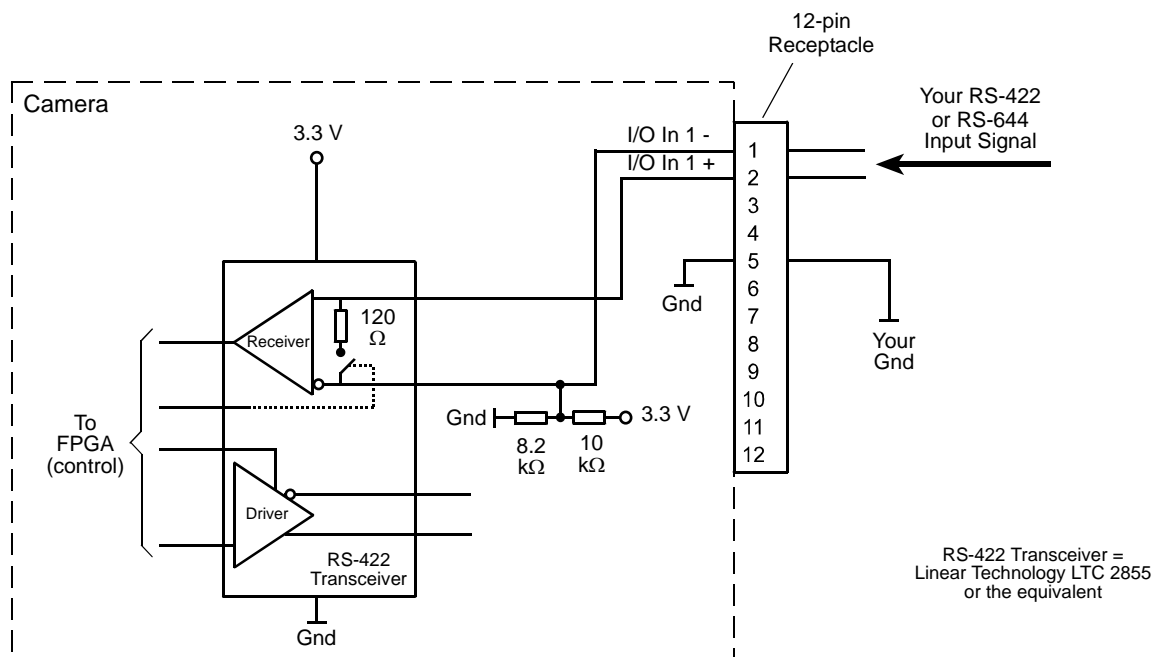
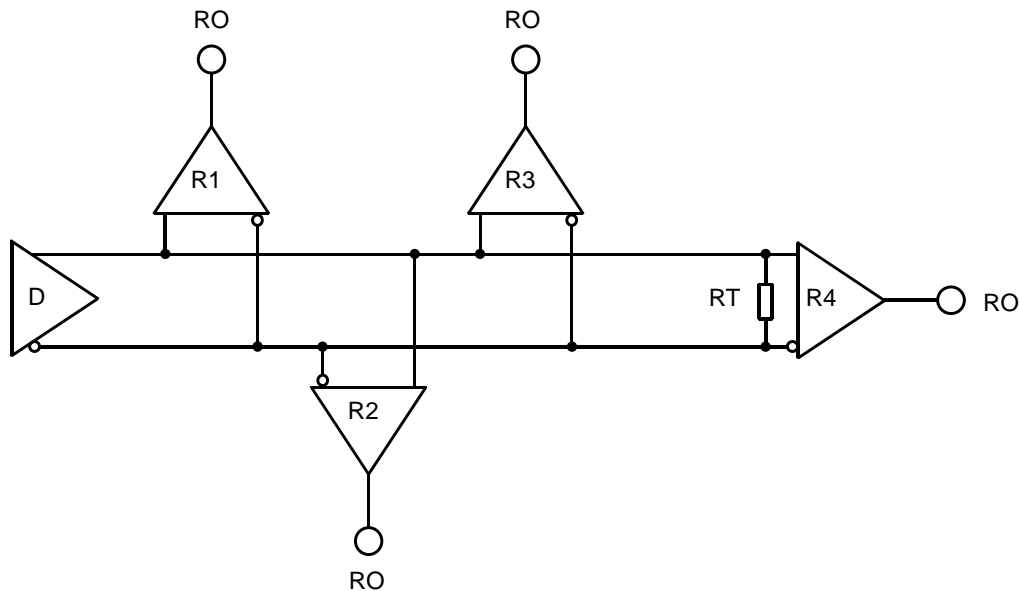

Fig. 21: Inputting RS-422 or RS-644 Signals
Fig. 22: RS-422 Interface Circuit Including Four Receivers as an Example
As shown in Figure 21 and in the I/O schematic at the beginning of this section, each input is designed to receive an RS-422 signal. For the camera's I/O circuitry to operate properly, you must supply a ground as shown in Figure 21.
The RS-422 standard allows devices to be used with a bus structure to form an interface circuit. So, for example, input line 1 on several different cameras can be connected via an RS-422 bus as shown in Figure 22.
The separations between receivers and bus should be as small as possible. The bus must be terminated by a 120 ohm termination resistor (RT). Note that each RS-422 input on the cameras includes a switchable 120 ohm termination resistor as shown in Figure 21. When a camera input of the last receiver in the bus terminates the bus (as shown in Figure 22.: R4), the termination resistor on that input should be enabled. You should not use multiple termination resistors on a single bus. Using multiple termination resistors will lower signalling reliability and has the potential for causing damage to the RS-422 devices.
For the camera's I/O circuitry to operate properly, you must supply a ground as shown in Figure 21.